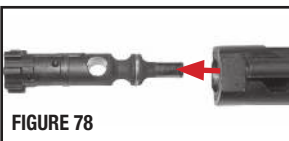

FIGURE 78
- Pull the bolt forward and out of the bolt carrier (FIGURE 78).